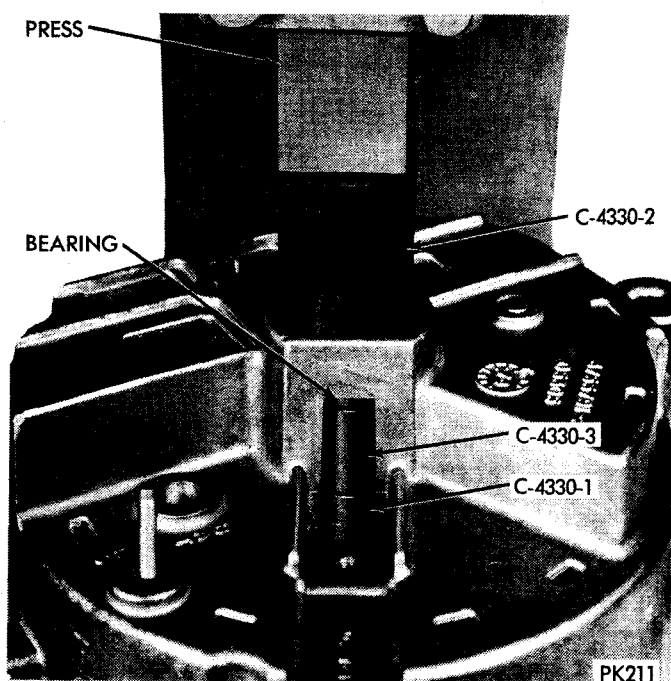

Fig. 55—Removing Rectifier End Shield Bearing
(5) The needle roller bearing in rectifier end shield is a press fit. If necessary to remove bearing, refer to Figure 55 for correct positioning of tool C-4330.